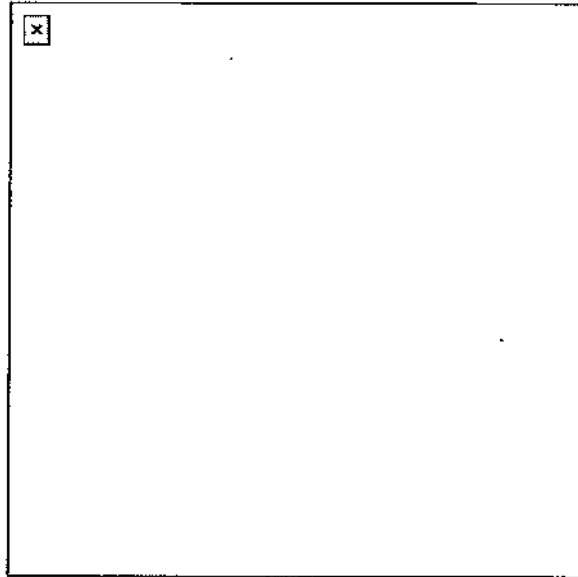

Figure 4. Loop hole position.
- (1) Break or blow several small holes in the wall (Figure 4) to allow the firer to observe and engage targets in his sector. Making several holes allows the firer to move from one to another to deceive the enemy about his location.